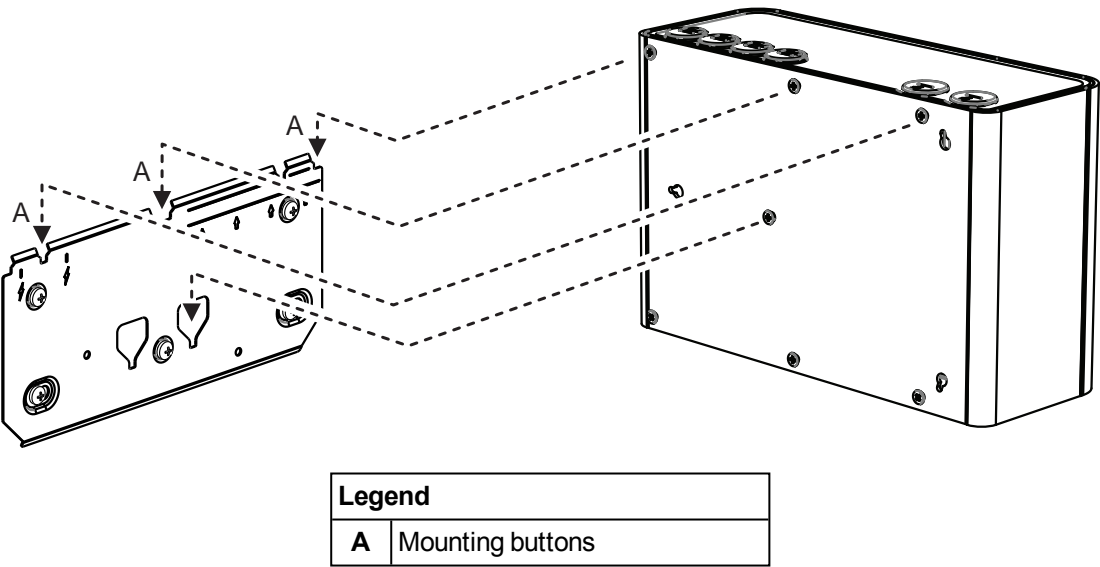

Figure 4-21: Mounting the detector
6. Align the mounting studs (A) on the rear of the detector with the mounting stud slots on the mounting bracket, and slide the detector down until the top of the detector is flush with the top of the mounting bracket (Figure 4-21).